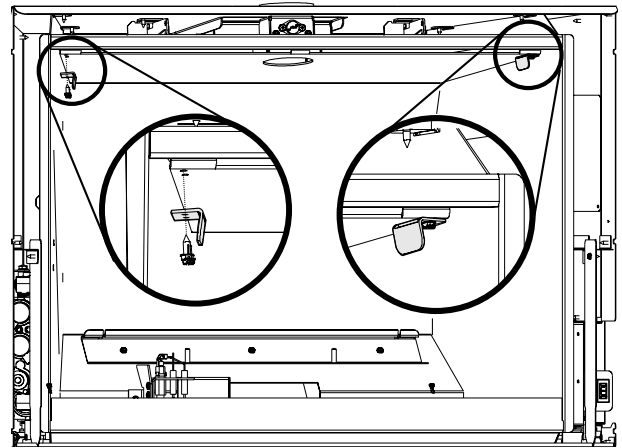

Figure 29. Remove retainer brackets
3. Remove the two Panel Retainer Brackets from the top of the firebox. Set them aside for later reinstallation. Fig. 29.